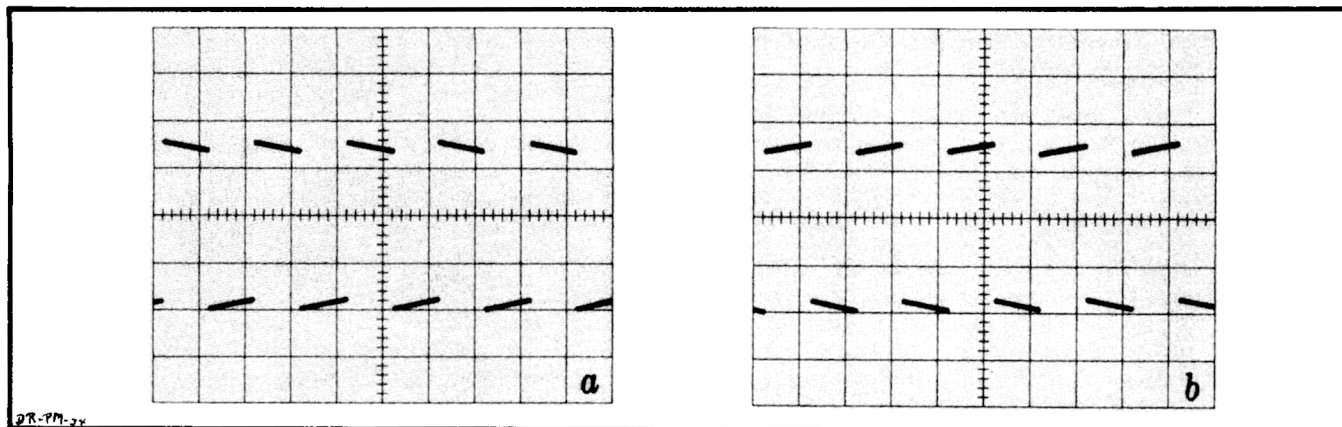

Fig. 4-10. Two types of low-frequency distortion.
Waveform distortion can be divided into two categories; (1) low-frequency distortion, illustrated in Fig. 4-10 and (2) high-frequency distortion, illustrated in Fig. 4-11. Any low-frequency distortion apparent in the waveform will be produced by the Preamplifier. The main Vertical Amplifier is dc-coupled; therefore its response is flat down to dc.
Low-frequency attenuation will produce the type of distortion shown in Fig. 4-10(a). This is caused by the cathode- and screen-bypass capacitors, and by coupling capacitors. Before attempting any component replacement, however, be sure to check the adjustment of the LOW FREQ. ADJ. control (R175), as explained in the Calibration Procedure.
Over-compensation of low frequencies is illustrated in Fig. 4-10(b). This condition is produced by excessive low-frequency "boost". Refer to the Circuit Description for an explanation of how the "boost" circuit operates.